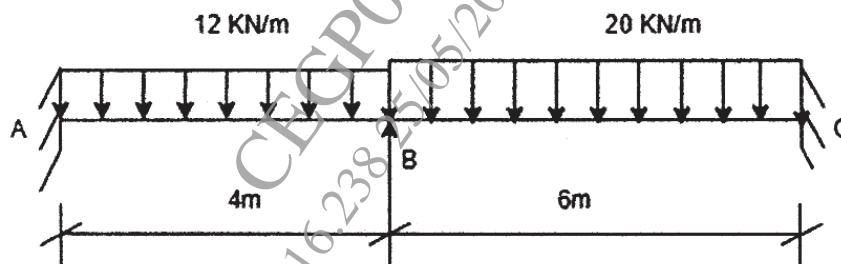

Figure 1
- Q1) a) Analyze the beam shown in figure 1 by slope deflection method and draw B.M.D Assume uniform flexural rigidity. [12]